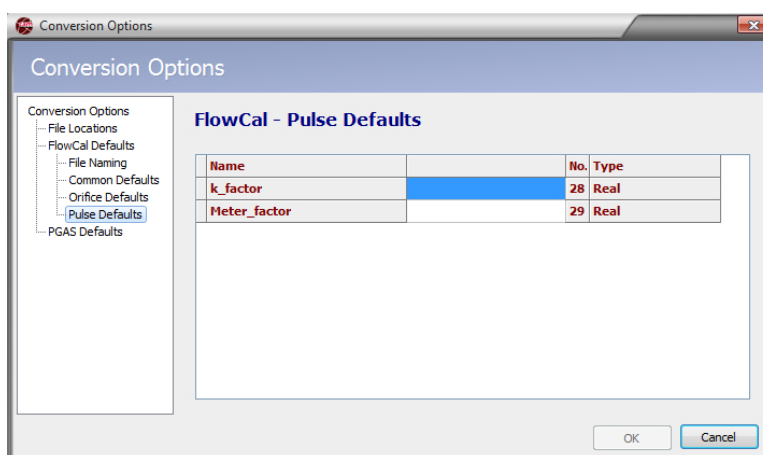

Figure 5.5—Flow-Cal Pulse Defaults dialog
- Pulse Defaults (Figure 5.5, page 65)